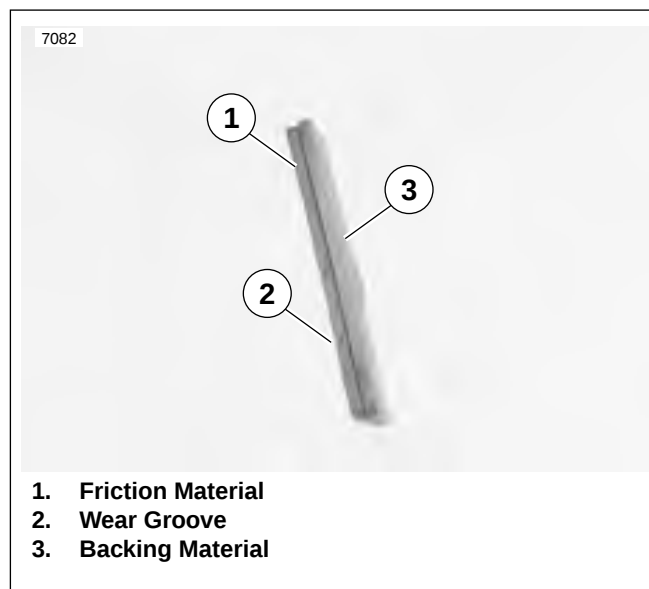

Figure 1-16. Brake Pad Thickness
See Figure 1-16. Inspect brake pads for damage or excessive wear. Replace both pads as a set if friction material (1) of either pad is worn to 0.04 in. (1.0 mm) or less. If this amount of wear occurs, wear grooves (2) will disappear from friction material surface.